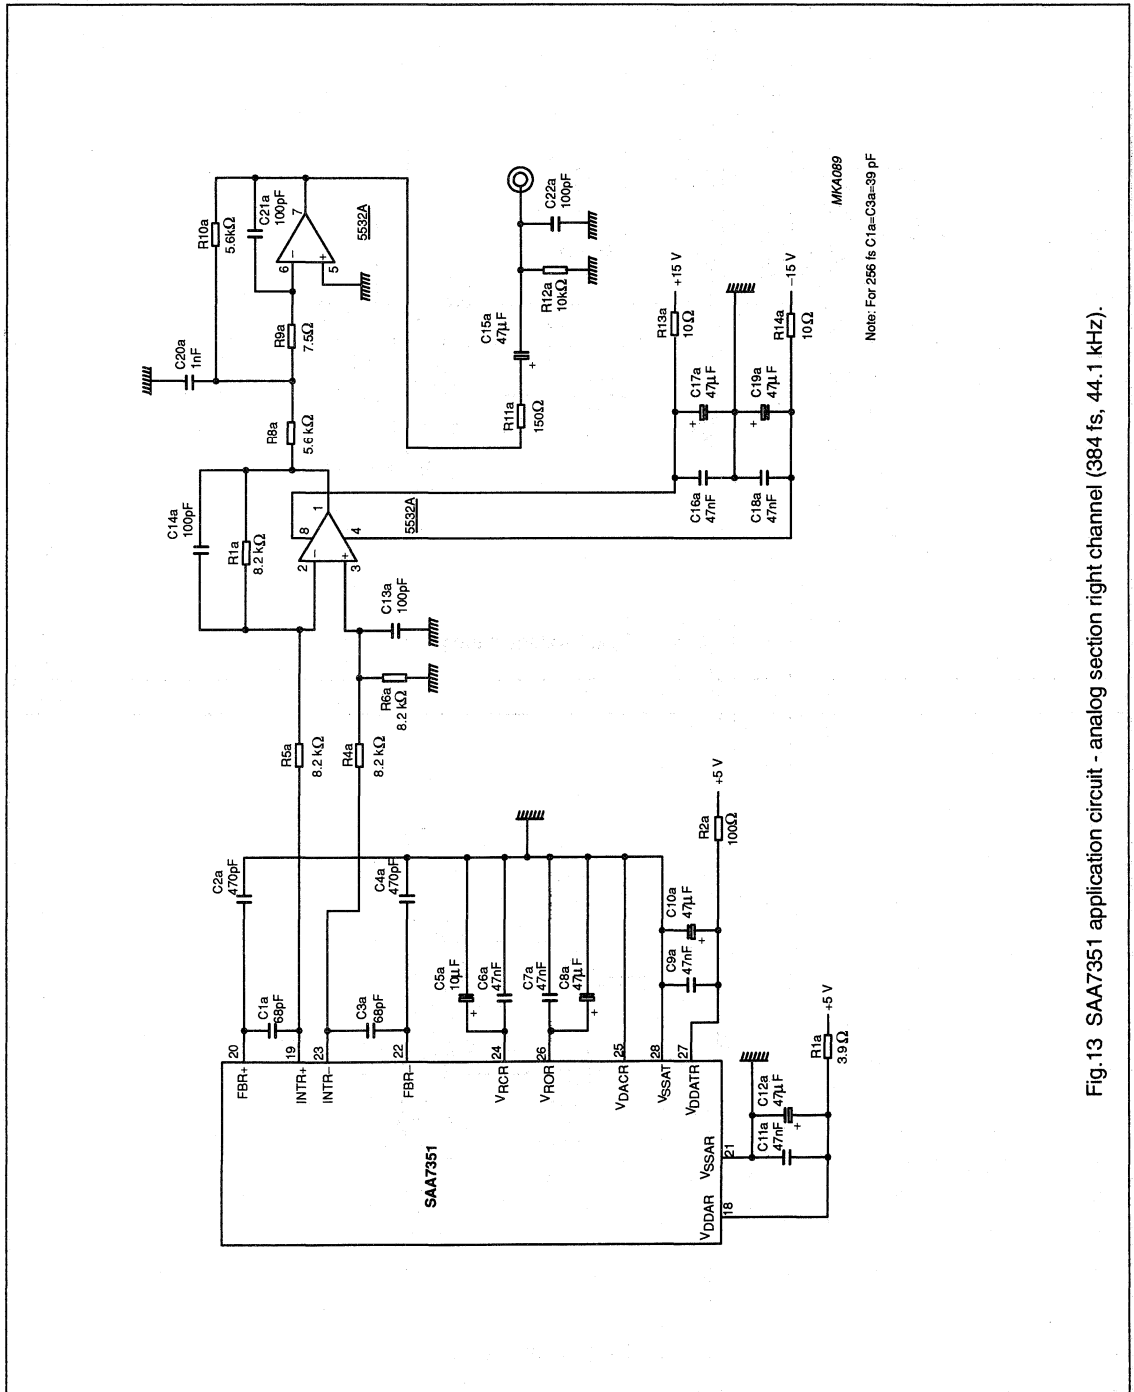

Fig.13 SAA7351 application circuit - analog section right channel (384 fs, 44.1 kHz).
- Device measured in differential mode with external components shown in recommended application diagram (see Figs 13 and 14).
- Application output level measured at output from first operational-amplifier stage in Figs 13 and 14.